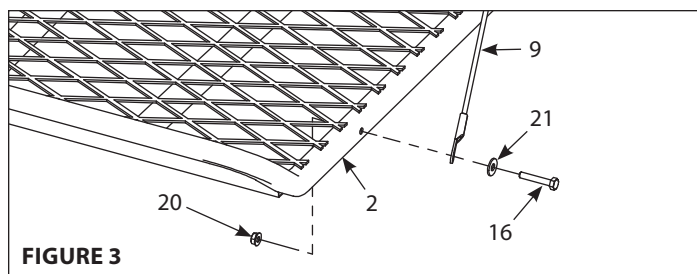

FIGURE 3
3. Bolt cables (9) onto platform (2) using two provided M8 x 40mm bolts (16), two steel washers (21) and two M8 locknuts (20). **SEE FIGURE 3. You must now tighten all nut & bolt assemblies. Be sure not to over tighten or crush tubing when tightening!**